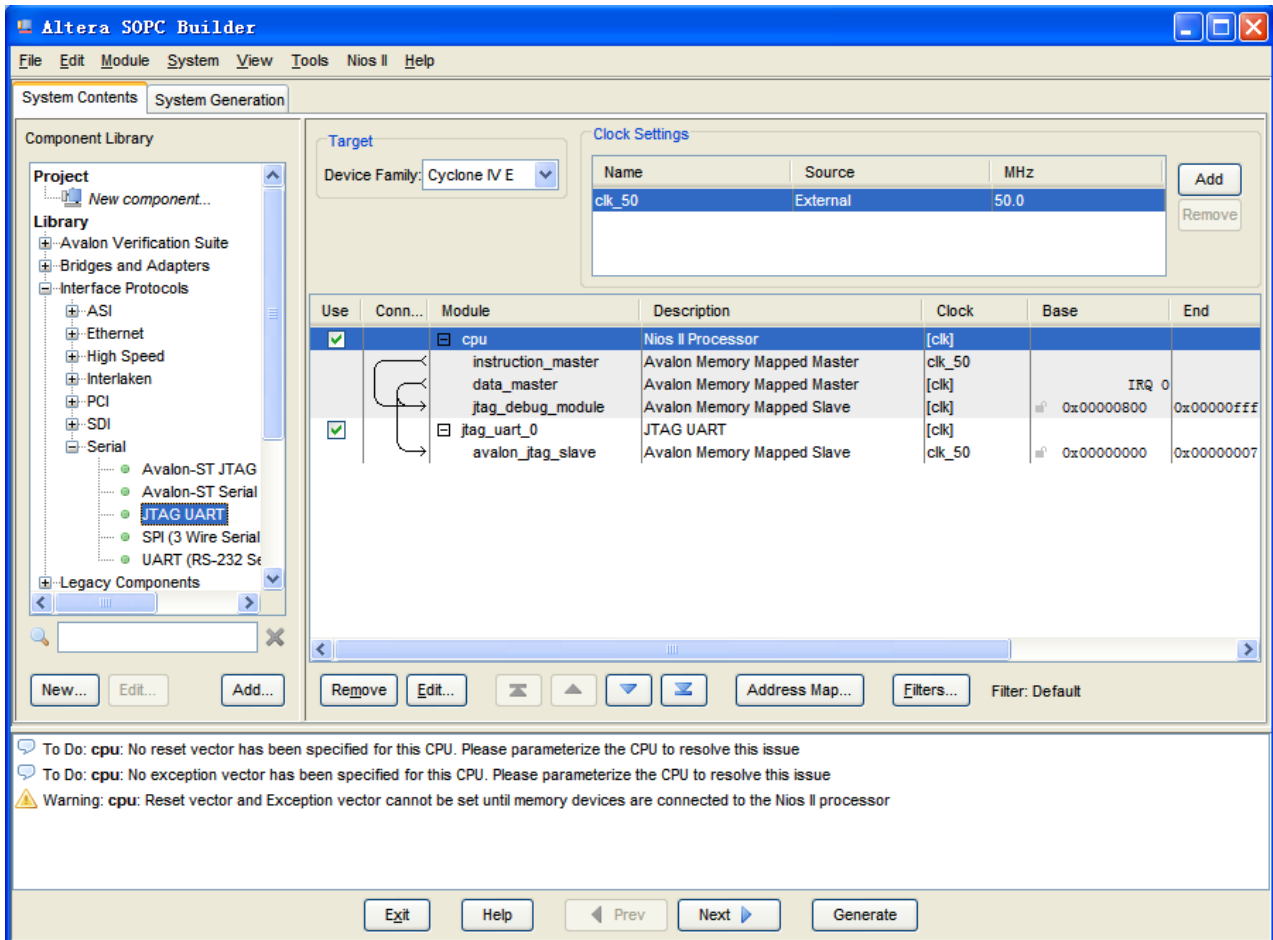

Figure 7-21 JTAG UART
12. We are going to use the default settings for this component, so click **Finish** to close the wizard and return to the window as shown in Figure 7-21.